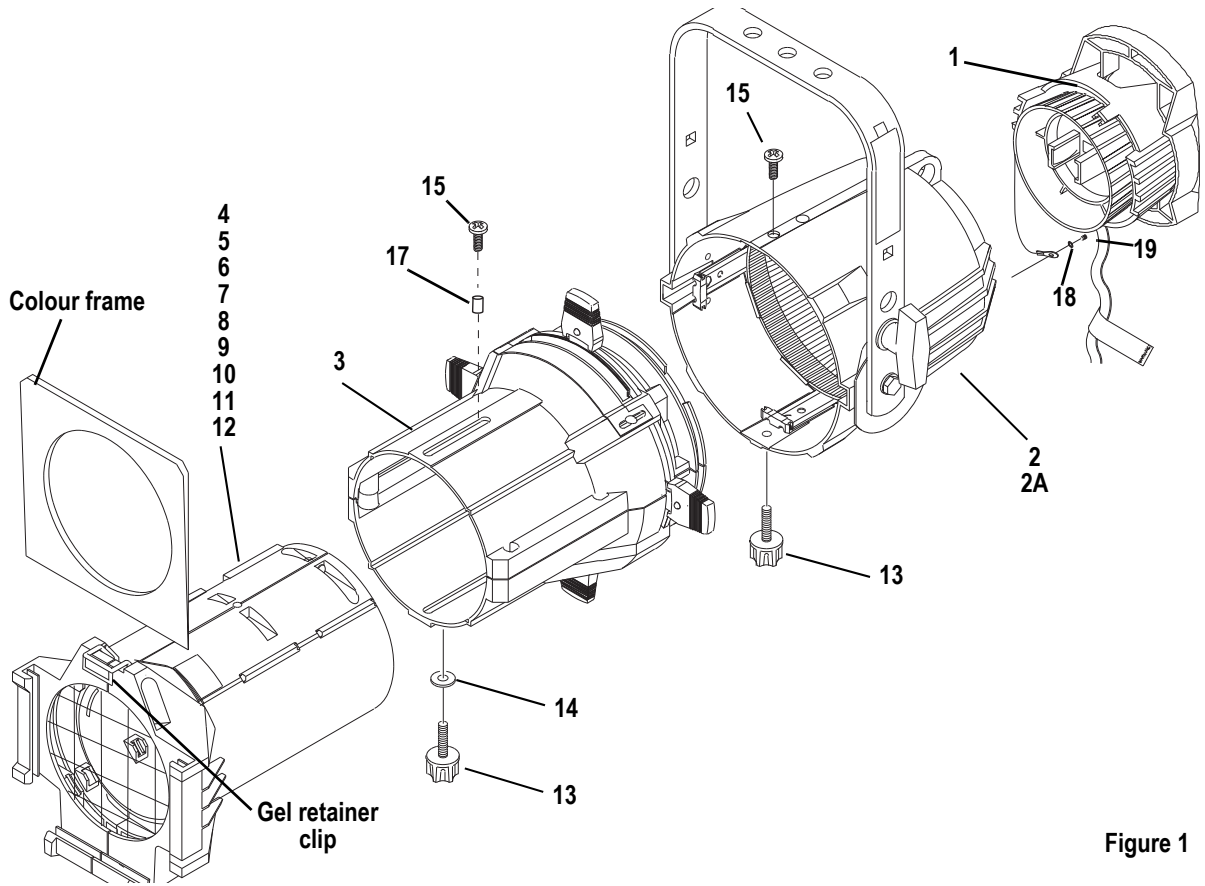

Figure 1
- Step 5: Insert lens tube assembly (4-12) fully into the front barrel assembly (3). Align the mounting hole with the slot and secure with knob (13). Install screw (15) and spacer (16) on top of front barrel. See Figure 1.
- Step 6: Install reflector housing (2) onto front barrel assembly (3) and align the two mounting holes. Secure with screw (15) top of reflector housing and knob (13) on bottom. Tighten both securely. See Figure 1.
- Step 7: Install the lamp socket assembly (1) to the reflector housing (2) and secure with brass knurled screw on rear of lamp socket assembly.
- Step 8: Secure the earth bond wire to the luminaire body using screw (19) and washer (18).